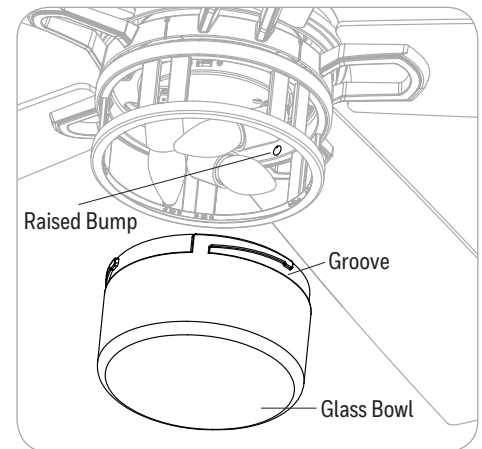

Figure 5.9
- Align the grooves on the glass bowl with the raised bumps on the light kit. Then, turn the glass bowl in a clockwise direction until the glass is secure (Figure 5.9).